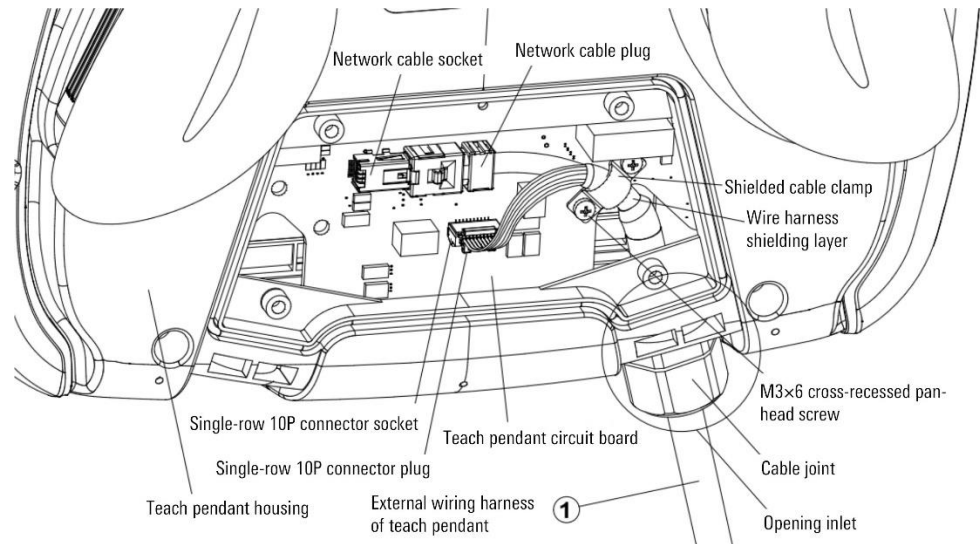

Figure 10-10 Diagram 2 of replacing the external wiring harness of the teach pendant
- Step2. Insert the external wire harness of the teach pendant through the opening on the lower right side of the teach pendant housing, clamp the cable connector in the opening, and use 2 M3×6 cross-recessed pan-head screws to press the wire harness shielding layer onto the shield clamp, refer to Figure 10-10.
- Step3. Connect the end of the external wiring harness of the teach pendant with the network cable plug to the network cable socket on the circuit board of the teach pendant. Connect the power and signal cable connectors to the single-row 10P connector socket on the circuit board of the teach pendant. Refer to Figure 10-10.